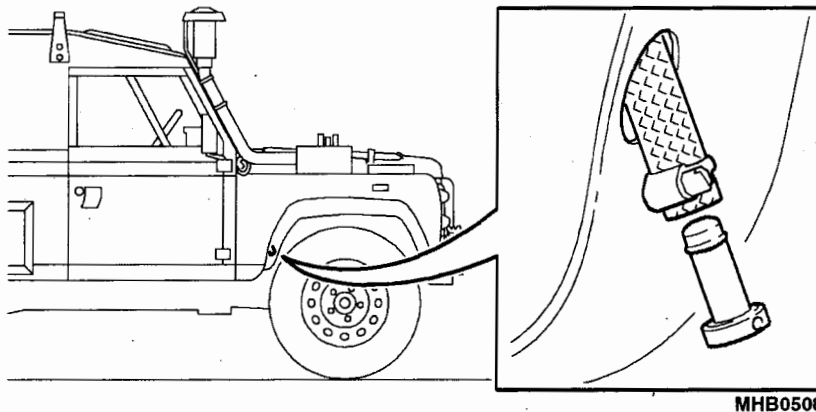

Fig 11 Breather manifold drain plug
17.1 Unscrew the clip and remove the drain plug (Fig 11) from the pipe that is situated on the right hand side of the vehicle at the rear of the wheel arch.